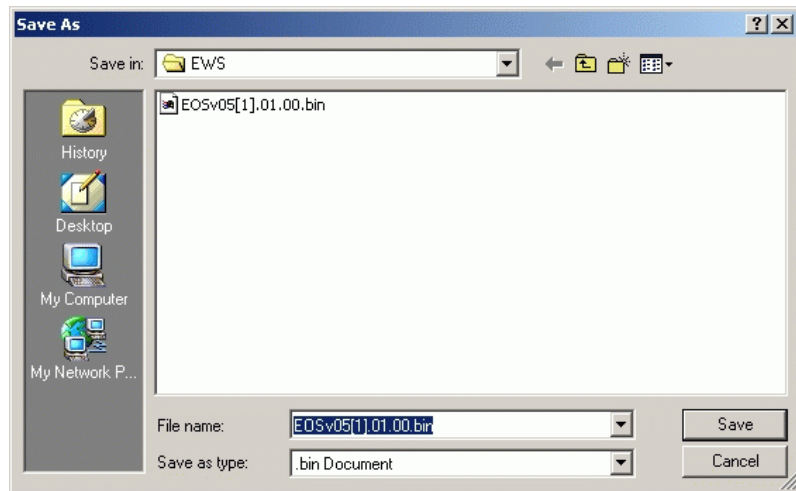

Figure 4-47 Save As Dialog Box
9. Select the *Save this file to disk* radio button and click *OK*. The *Save As* dialog box appears (Figure 4-47 on page 4-65).